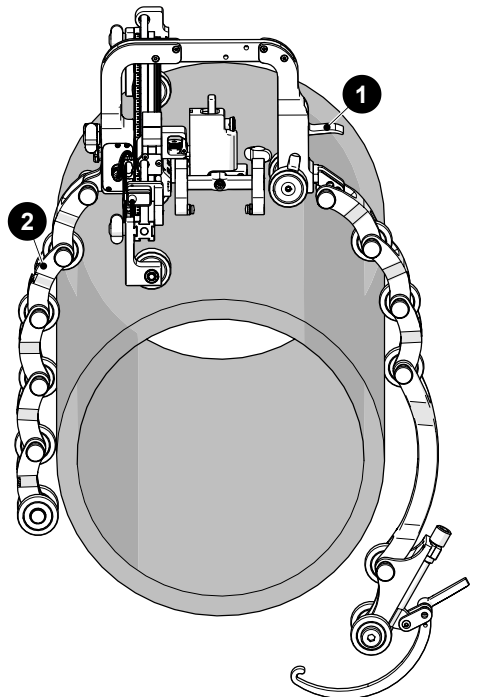

Fig. 85 - Place on pipe
5. Drape the configured assembly around the pipe/tube to be inspected (Fig. 85).